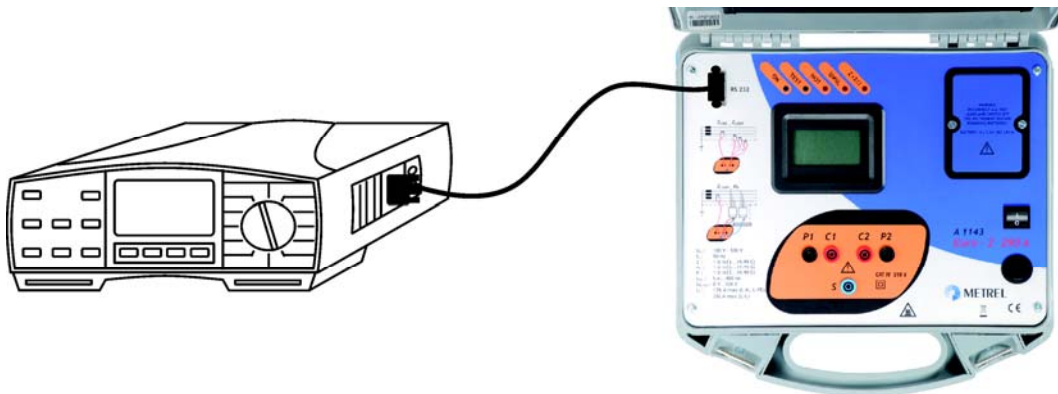

Figure 4.1: Connection of the Euro Z 290 A adapter to the Eurotest instrument
- ❑ Connect communication interface cable RS 232_9pin_female / RS 232_9 pin_male to the Eurotest 61557 and the Euro Z 290 A. See figure 4.1.